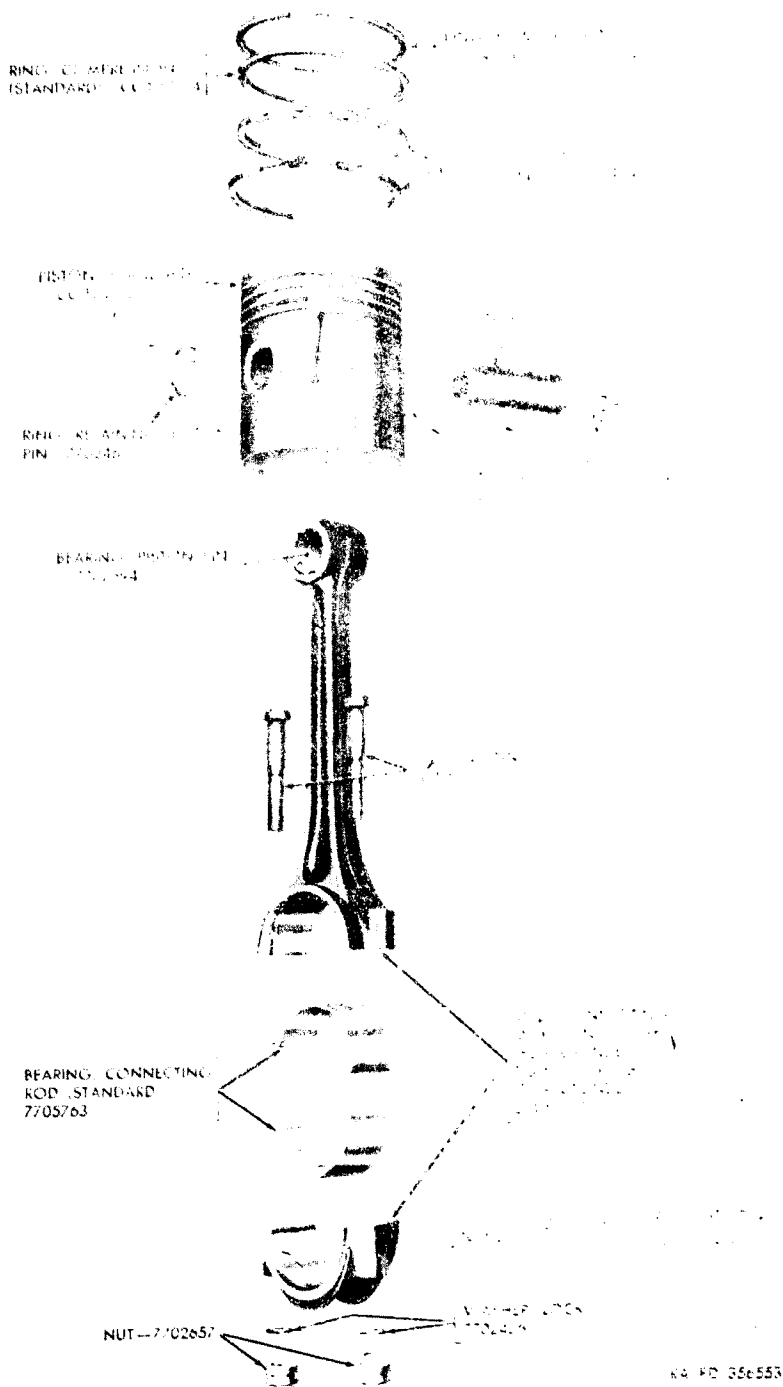

Figure 60. Piston and connecting rod assembly—exploded view.
a. Inspect Piston and Piston Rings (fig. 60). Install piston in piston vise, and remove piston pin. Remove piston rings and thoroughly clean carbon from piston ring grooves. Also clean carbon from oil return holes. Replace piston if cracked or scored. Check ring side clearance in grooves with new piston rings. If the side clearance exceeds the maximum repair and rebuild standards clearance (par. 71) for oil rings, replace the piston.
d. Inspect and Fit Piston Pins. Measure the piston pin with a micrometer, and if the diameter exceeds that in repair and rebuild standards (par. 70), replace the pin. Fit piston pin in the piston pin bearing (fig. 60) and the piston with a tight thumb press fit at normal room temperature of 70° F.